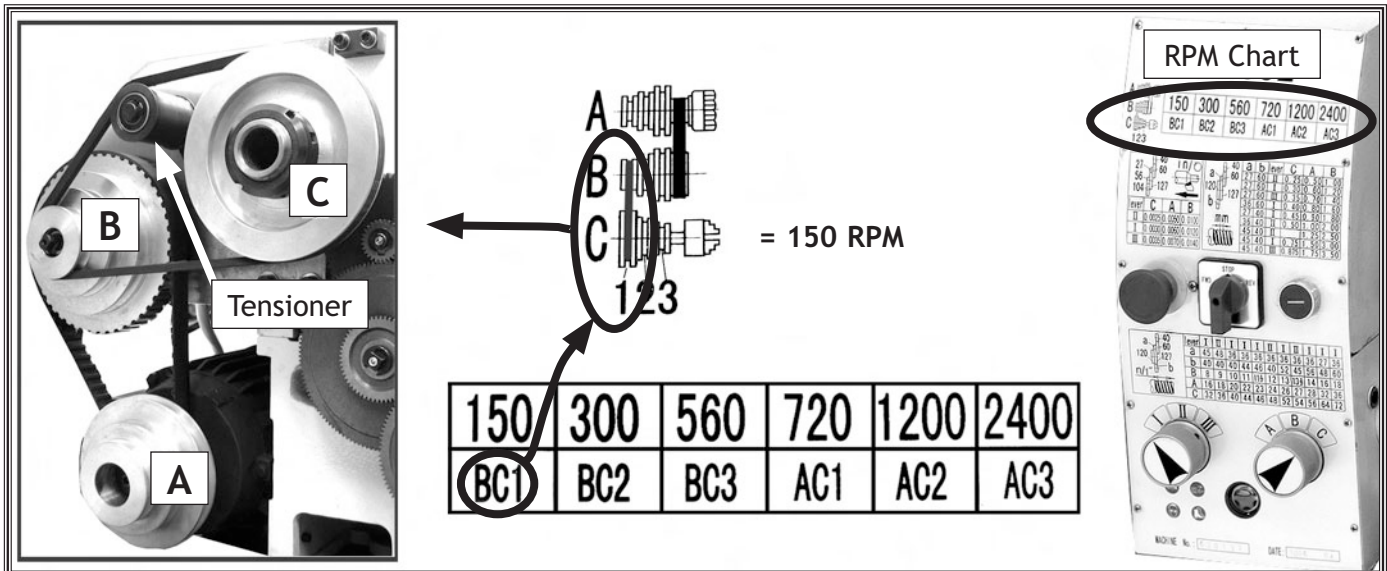

Figure 30. Pulley combination (BC1) achieves 150 RPM at the spindle.
This lathe has six possible spindle speeds. Shown in **Figure 30** is an example of how you would use the chart to get a spindle RPM of 150.
2. Refer to the RPM chart in **Figure 30** and determine which pulley combination you will need to get a particular spindle RPM.
3. Open the side cover and install the low range belt between pulleys B and C and in sheave 1 as shown in **Figure 30**.